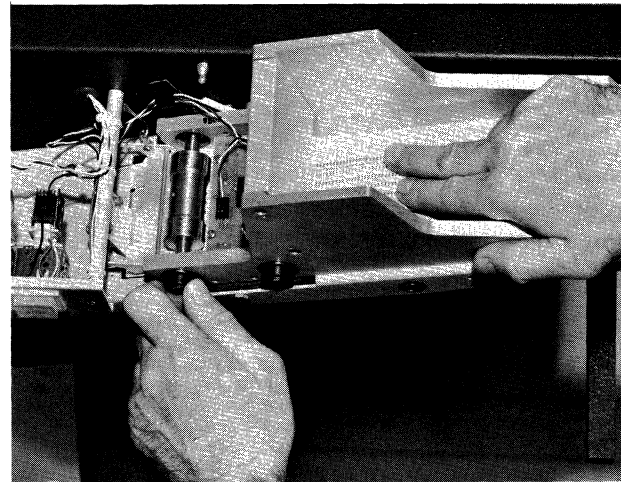

Figure 3-8. Clearing a Card Jam
3. Remove the damaged card by gently pulling it forward and through the read station (see Figure 3-8).
4. Should there be some difficulty in removing the card, it is suggested that the operator manually feed the card through the read station in the direction of the output hopper while turning, with the left hand, either pulley shown in Figure 3-8 to advance the card into the output hopper.